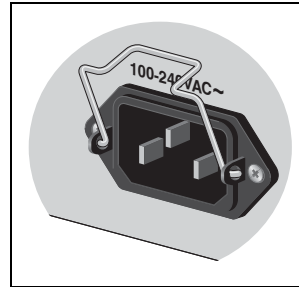

Figure 57. Power Cord Retaining Clip in the Up Position
1. Position the power cord retaining clip in the up position, as shown in Figure 57. Note that the AT-PWR1200 power supply does not have a retaining clip.